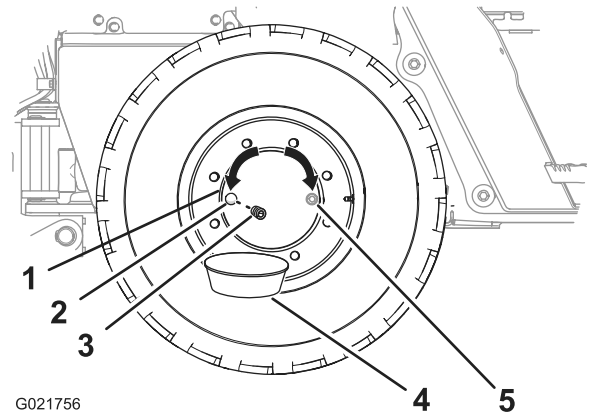

Figure 62
2. Move the machine forward or backward until the plug for the wheel hub is at either the 3 o'clock or 9 o'clock position (Figure 62).
4. Place a drain pan under the drain port in the wheel hub (Figure 62).
5. Remove the plug from the wheel hub (Figure 62).
6. Check that the oil level is at the bottom of the threads of the oil port (Figure 62).
8. Install the plug in the oil port of the wheel hub (Figure 62).